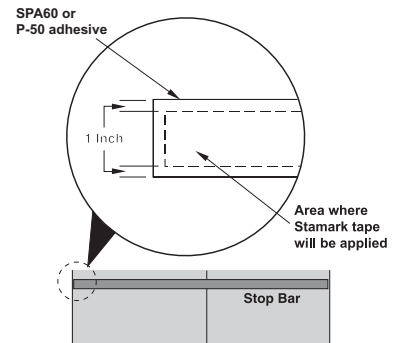

Figure 16
- If using SPA60 or P-50 for an intersection or and transverse marking - including legends and symbols - evenly apply one coat of adhesive to the road surface using a solvent-resistant roller with a minimum 3/8-inch nap to a maximum 3/4-inch nap. The coating on the pavement must extend at least one inch (2.5 cm) beyond the premarked area. (See Figure 16.)